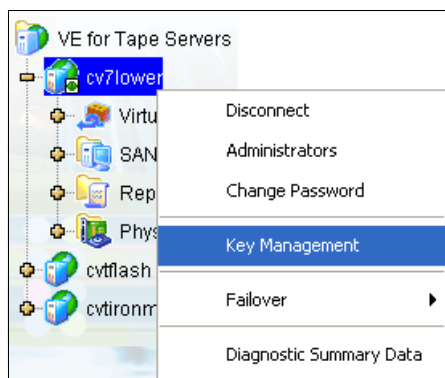

Figure 12-68 Starting the key management process
1. Right-click the TS7530 Server name and select **Key Management** in the navigation tree, as shown in Figure 12-68.